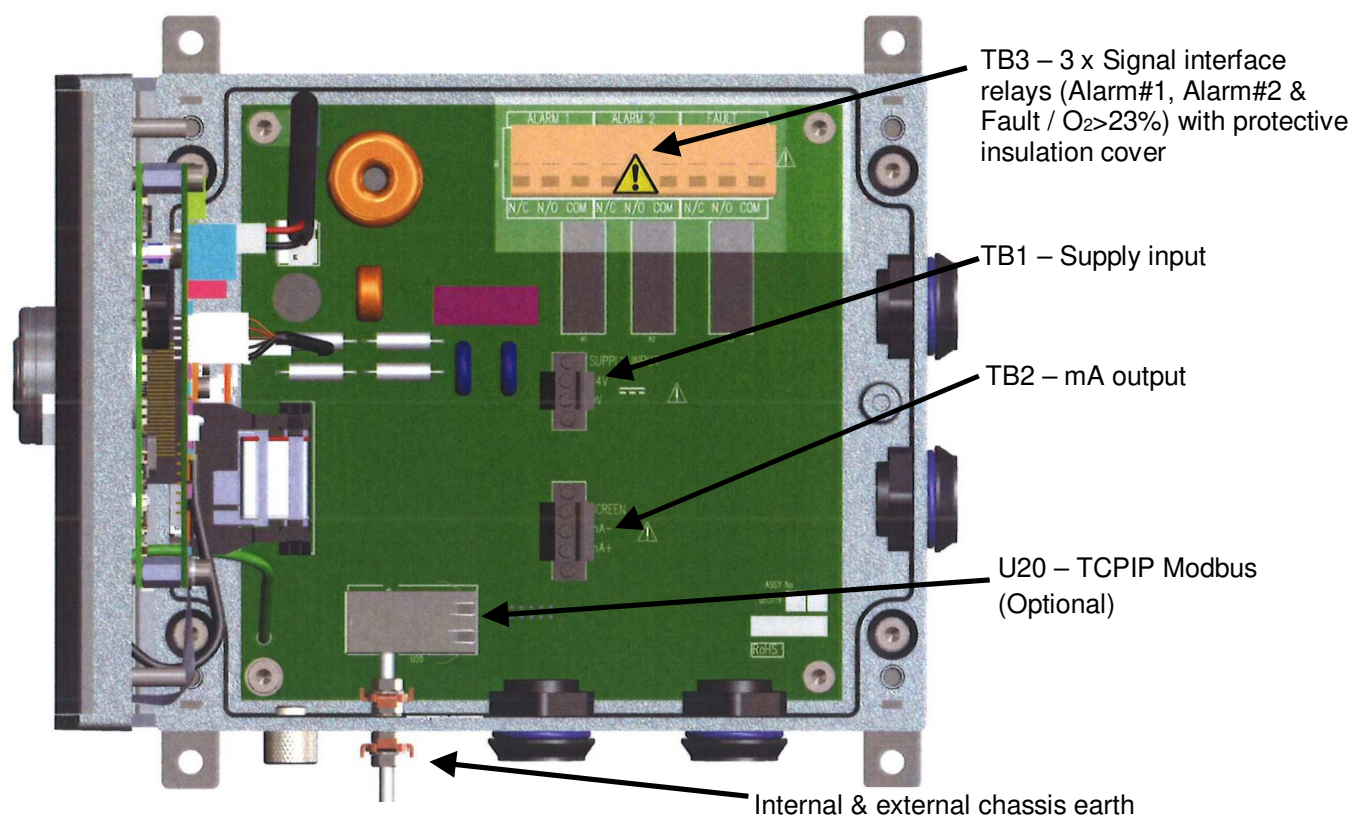

Figure 12 - Electrical connections
1. Connect the wires in your cable to the screw terminals on TB1 see Figure 12.
1. Connect the wires in your cable to the screw terminals on TB2 see Figure 12.
1. Connect the wires in your cable to the screw terminals on TB3 see Figure 12. It is necessary to remove the polycarbonate protective cover to access the terminal block by releasing the M5 x 20mm screw. On completion of electrical connections the polycarbonate cover should be replaced. The screw should be tightened to a torque of 0.8Nm.